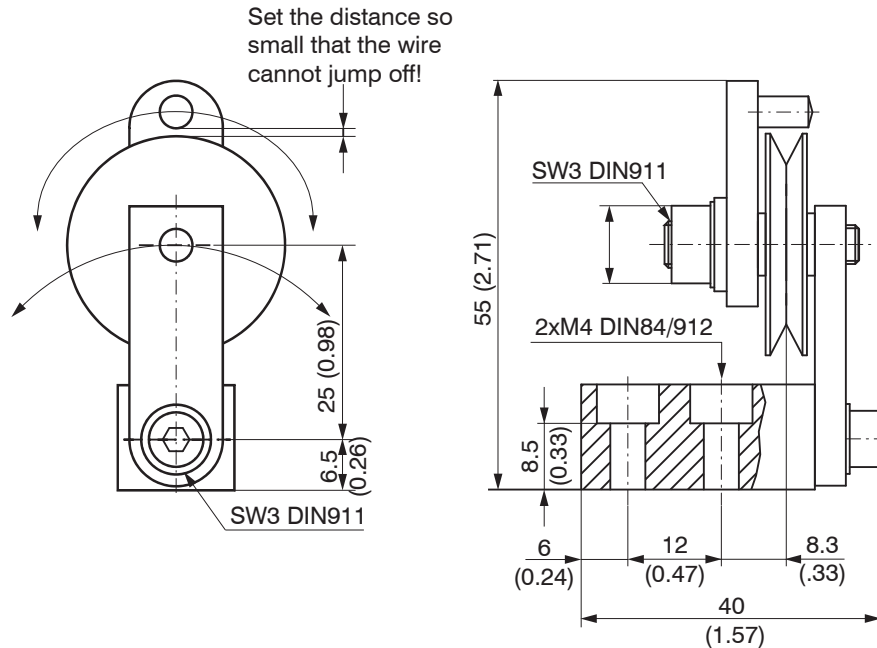

Fig. 6 Deflection pulley TR1-WDS with adjustable mounting foot, dimensions in mm
- TR1-WDS Deflection pulley with mounting foot, see Fig. 6